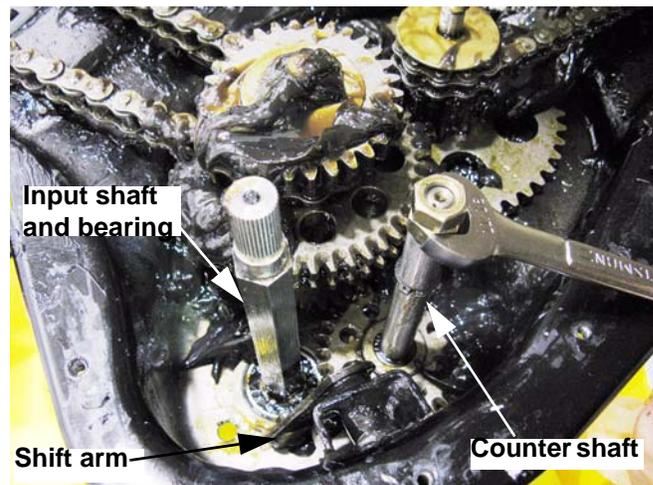

Figure 5.54
4. Double nut the top of the counter shaft. See Figure 5.54.